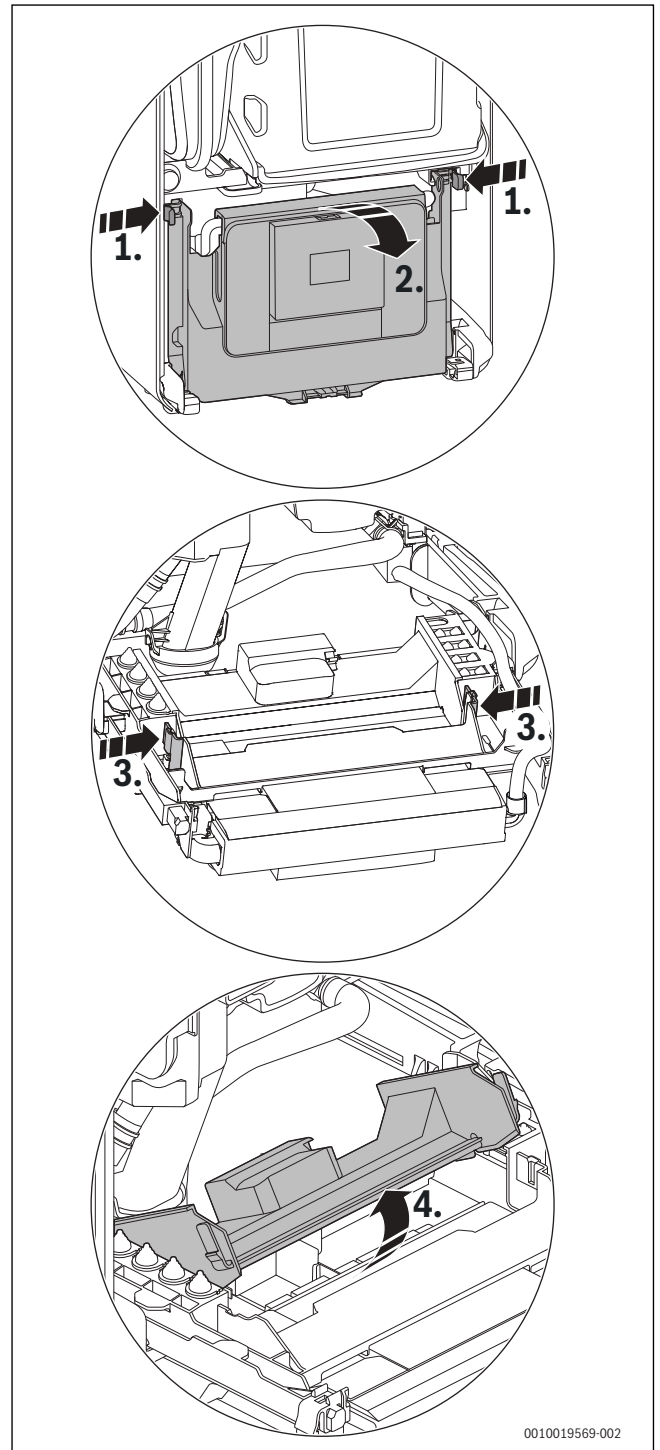

Fig. 51 Opening the cover
- ▶ Flip down the control appliance (→ Fig. 51).